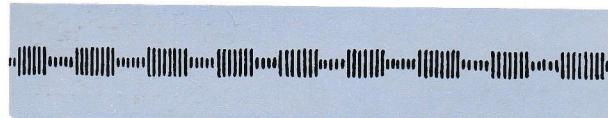

Fig. 42
**e) To make the design shown in Fig. 42**